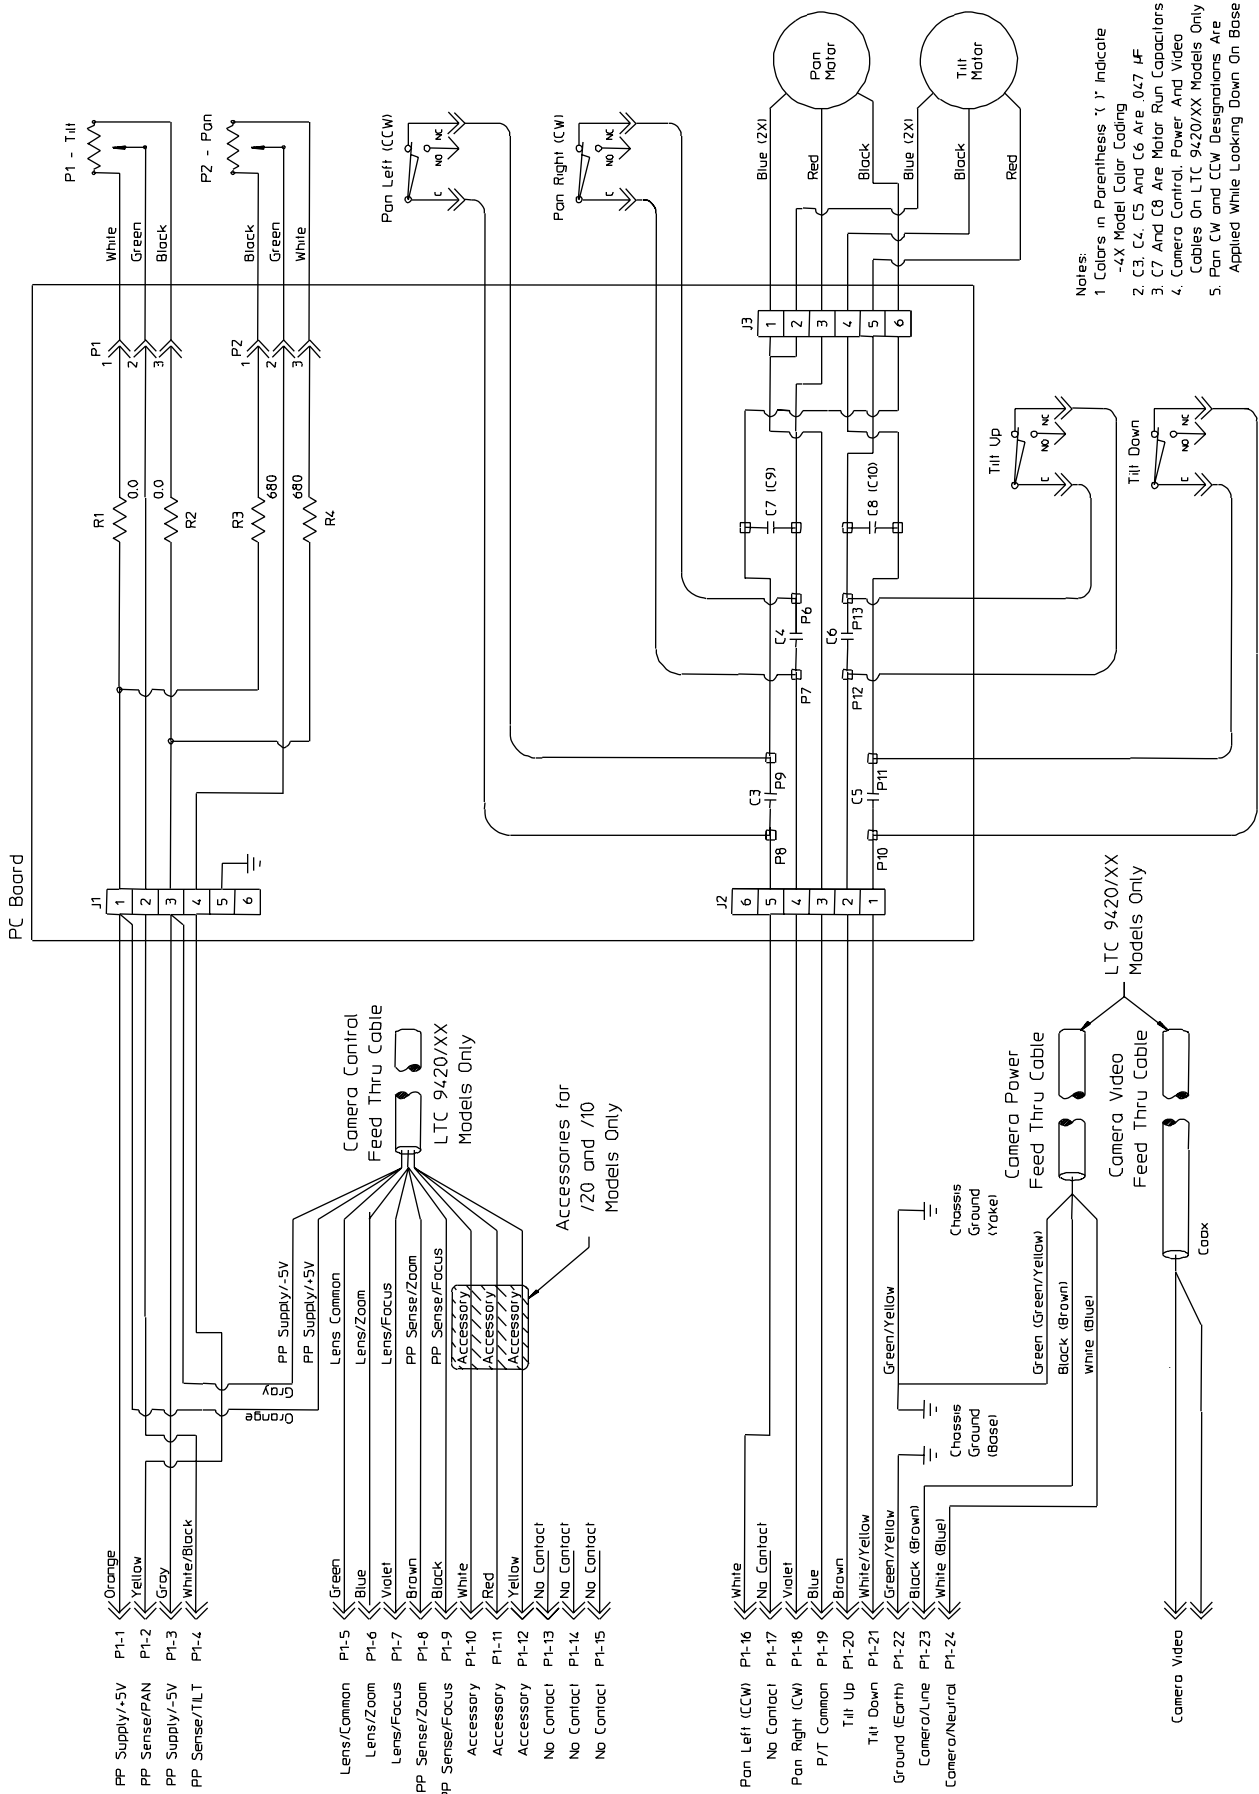

Figure 6: Wiring Diagram - 0° to 345° Models
4. (Color Codes) shown are for 24 volt, 60 HZ and 110 volts models. For 220 volt and 24 volt, 50 HZ models, color codes are (23) Brown, and (24) Blue.
6. Refer to **Figure 6** under Wiring Diagrams for the wiring schematic.
Use of the auto-pan function requires wiring connections to pin 16 (Pan Left), pin 18 (Pan Right), and pin 19 (Common). See **Figure 6: Wiring Diagram (0° - 345° Models)**. The auto-pan function is achieved by the controller unit sensing changes in current flow through the pan motor. When a pan stop is reached, the current flow stops and internal circuitry of the controller unit reverses the auto-pan direction.